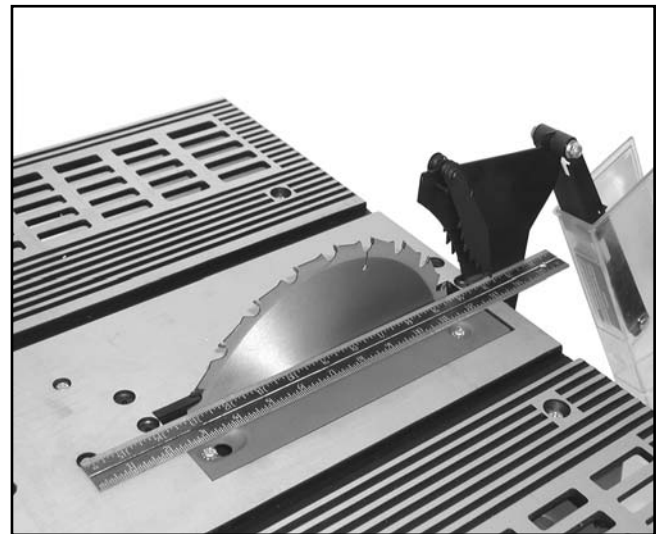

Figure 11. Attaching the splitter/blade guard.
4. Thread the bolt through the splitter bracket and place the flat washer and inner lockwasher on the inside end of the bolt. See **Figure 11**.